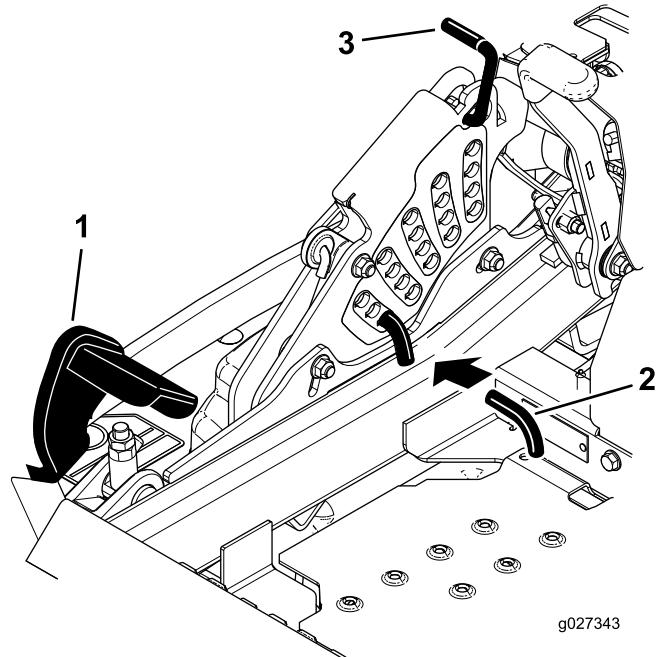

Figure 97
- 5. Push the deck-lift pedal all the way forward and the deck latches at the 14 cm (5-1/2 inches) transport position (Figure 97).